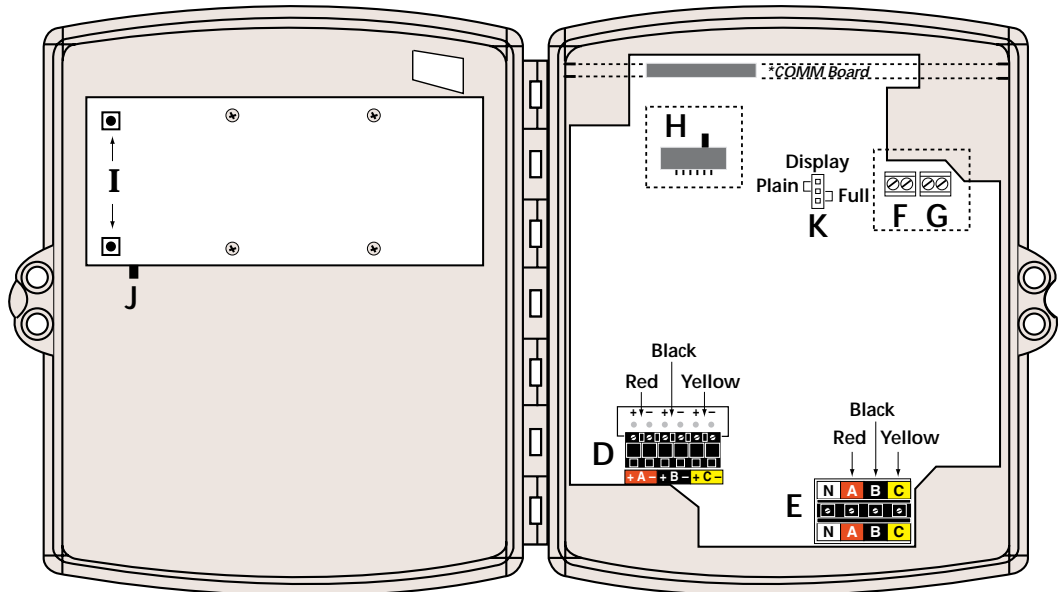

Figure 3: Color match CTs and voltage leads
9. For the Extended Range model: To connect the energy consumption pulse output to a control/data acquisition system (DAQ), wire the pulse output (shown in Figure 3) to the controller. Output is an electronic N.O. “contact closure” rated for 24V AC/DC @ 100mA maximum. Ensure that the installation method and insulation ratings comply with local and National Electrical Codes.
10. For the Extended Range model: To connect the phase loss output to control/data acquisition system, wire the phase loss output (shown in Figure 3) to the controller/DAQ system. Output is an electronic N.C. “contact closure” rated for 24V ac/dc @ 100mA. maximum. Ensure that installation method and insulation ratings comply with local and National Electrical Codes.